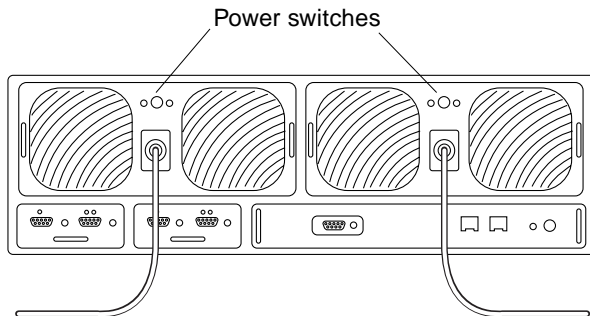

FIGURE 14-5 Power Cords Connected to the Power and Cooling Units
Separate power cords are used for the connector on each power and cooling unit to provide redundant cabling. The power cords need to be connected to alternate AC power sources for full redundancy (see FIGURE 14-5).
1. **Power off the power and cooling unit by pressing the power switch** (FIGURE 14-5). Make sure that the AC LED is amber and the PS LED is off.
3. **Disconnect the power cord from the power and cooling unit connector by squeezing both sides of the connector and pulling it straight out** (FIGURE 14-5).